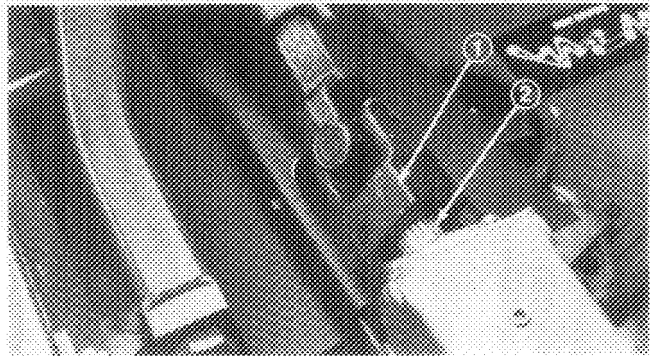

Figure 58
4. Remove socket head screw securing drive shaft yoke gear box input shaft. Slide yoke off shaft (Fig. 58).